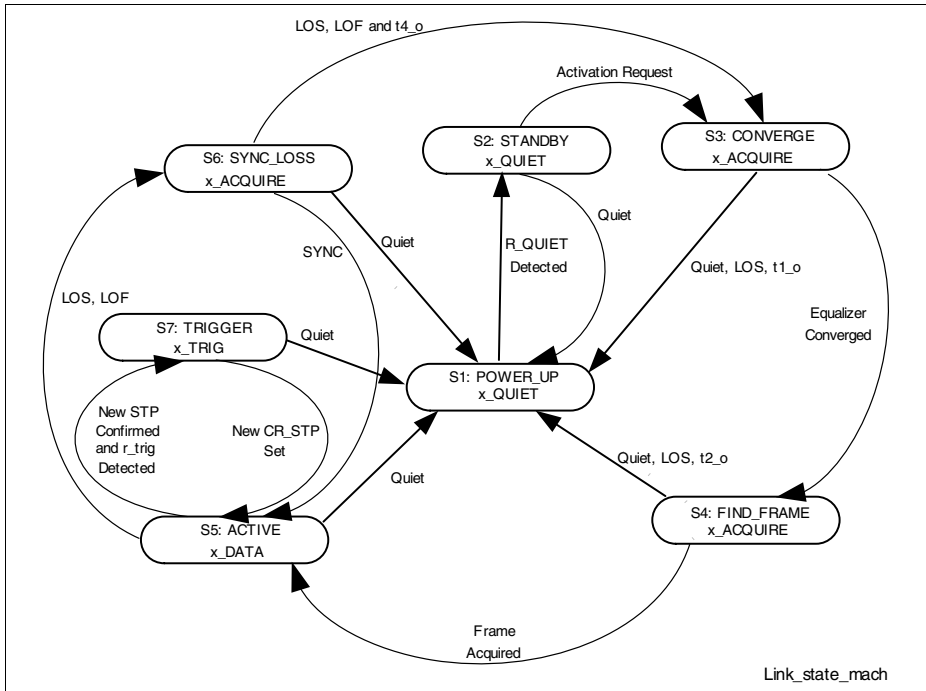

Figure 16 The Link State Machine
The Link State Machine is shown in Figure 16 and described in detail in the “*VTU-x State Machine*” sections of the ETSI Standard, where x indicates O (LT) or R (NT). See [Reference \[2\] on page 291](#).